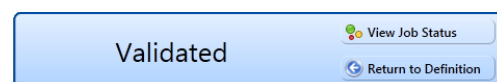

Figure 10-53. Validated Message
- 12 To validate the definition, click the **Prevalidate** button. When the validation process completes and the following message displays (Figure 10-53), click **View Job Status** to open the *Job Status* window or **Return to Definition** to open the *Definitions* window.